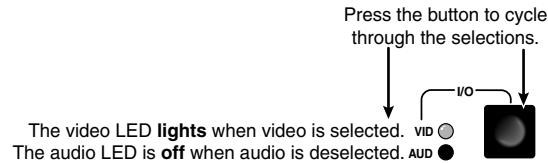

Figure 3-8 — Select video only
1. Select video only for the tie (figure 3-8).